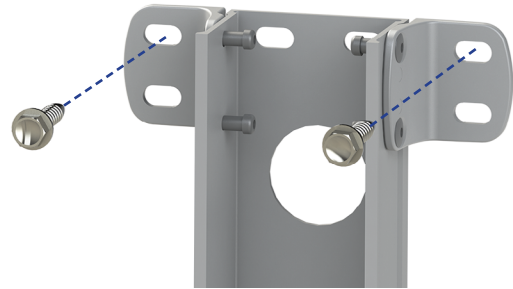
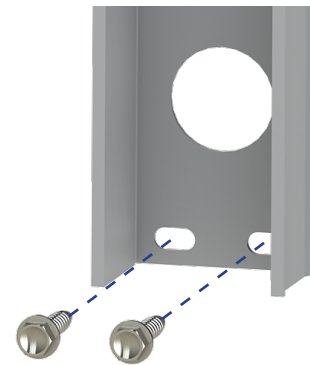

Fig.5
Fig.6
9. Lift the support arm assembly up and secure by setting the awning assembly to the desired height and attaching it to the side of the unit with two #14 x 1 1/4" screws at the top (**Fig.5**) and two #14 x 1 1/4" screws at the bottom (**Fig.6**).